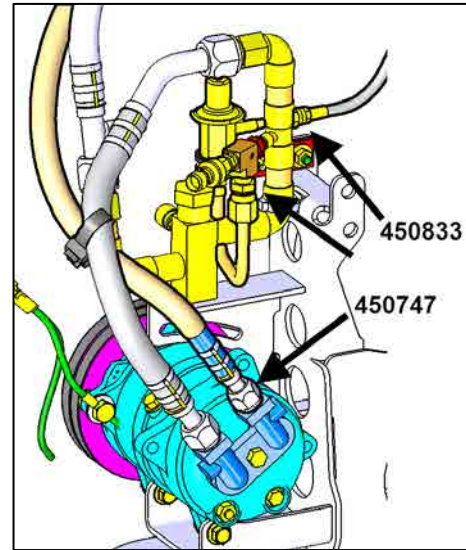

Figure 7
9. Connect #8 size hose #450747 to compressor high pressure outlet. (Fig. 7 & 8). Connect #4 size hose #450833 to bypass valve. (Fig.7 & 8)